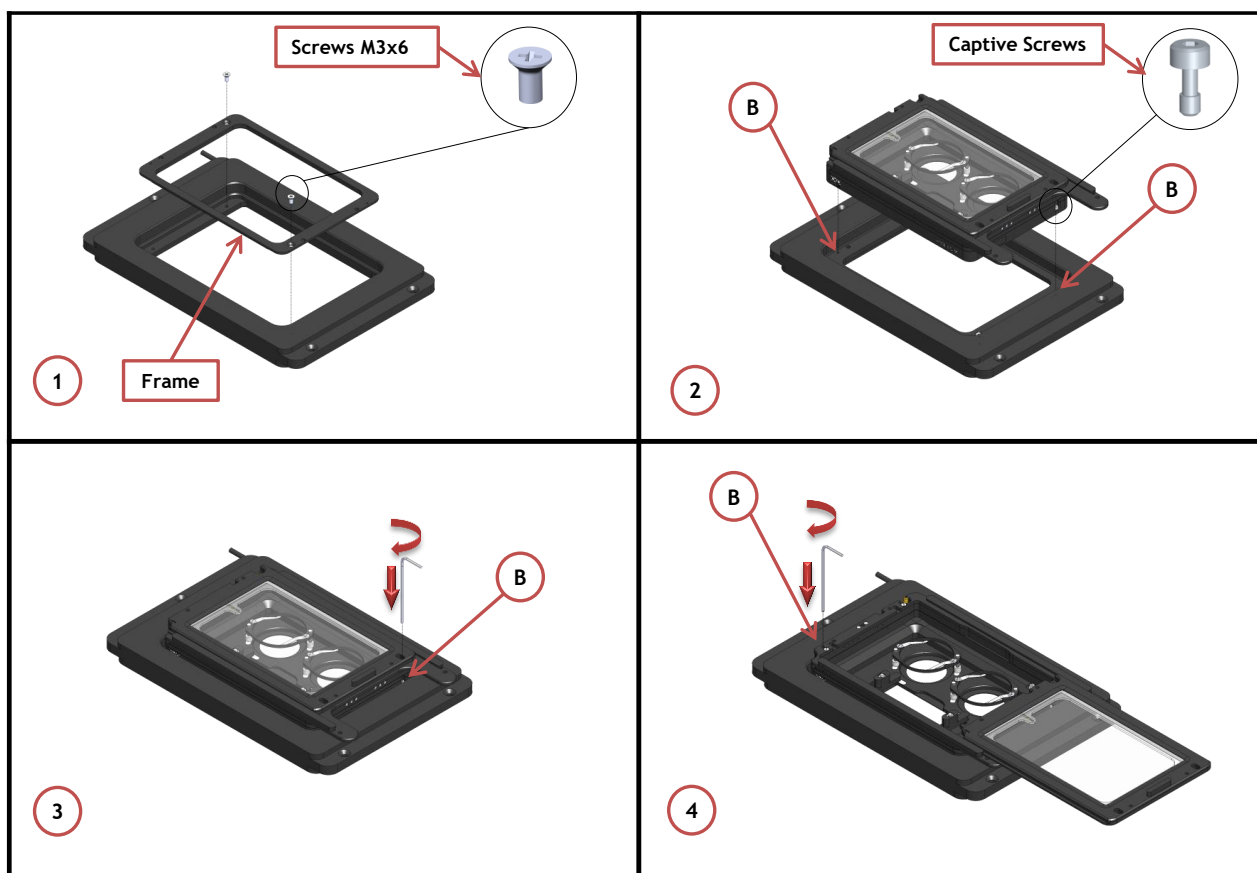

Figure 23. Connection of the Chamber with XY Stage
Follow the steps shown in the images of Figure 23 and listed below in order to correctly connect the chamber with Z piezo stage.
1. Place the frame on the stage and tighten 2 flat Phillips head screws M3x6 (See Image 1 of Figure 23). Screws housings are indicated with letter A in Image 1 of Figure 23.
2. Place the chamber on the stage and tighten 2 captive screws (See Image 2 of Figure 23). Captive screws housings are indicated with letter B in Image 2 of Figure 23.
3. Use a 1.5mm metric Allen Wrench to tighten one of the two captive screws (B in Image 3) while keeping the chamber sliding lid closed (See Figure 23 Image 3)